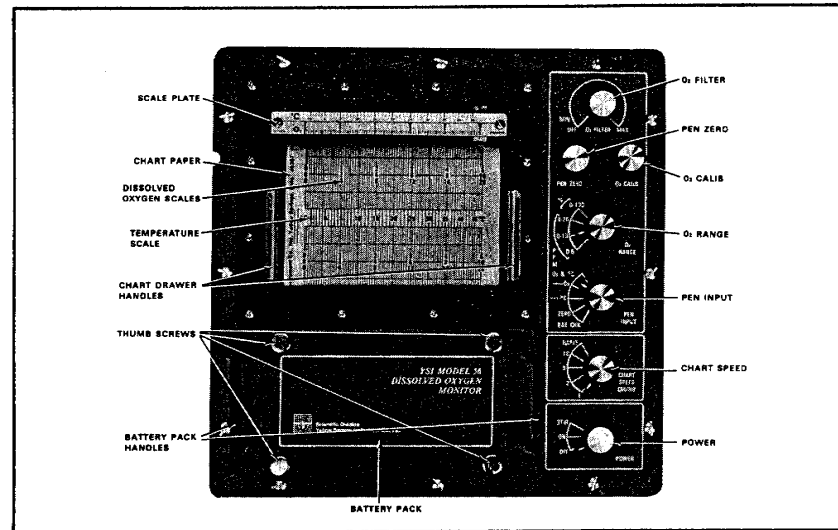

Figure 8 - Model 56 instrument panel
5. Check battery charge. (See Figure 8.)
Calibration consists of exposing the probe to a known oxygen concentration, such as air or water of a known oxygen content, and then appropriately adjusting the Model 56 reading to match the known sample. The following procedure is based on the air calibration technique. (See Figure 8.)
## 3. Instrument Settings. (See Figure 8.)